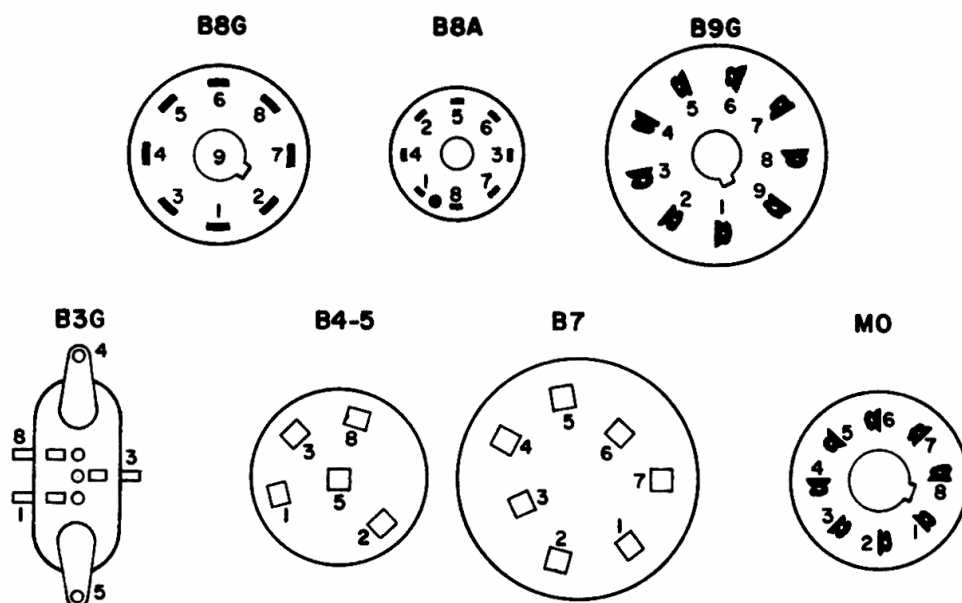

Figure 2
b) - Figure 2 is a diagram of the bottom view of the European Socket bases of Model 9-66AU